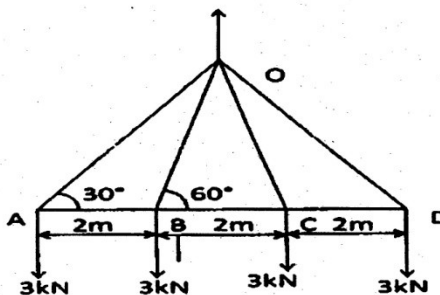

Figure 2
12. Determine the vertical deflection at A and B relative to the support O of the truss shown in figure 2. The truss is loaded with a 3kN load at four points ABCD. The members OA, OB, OC and OD each have the area of 70mm² and the members AB, BC, CD each have the area of 140mm². $E = 2 \times 10^5 \text{ N/mm}^2$.